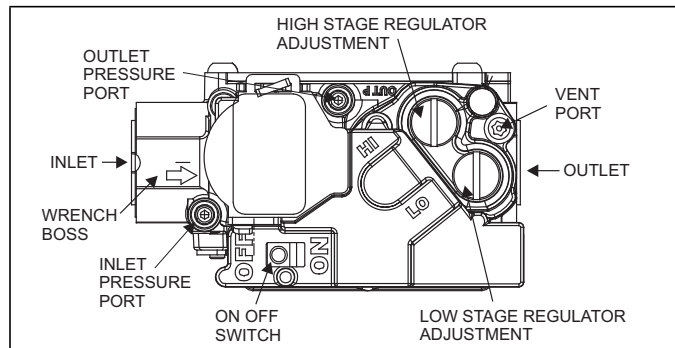

FIGURE 23: Gas Valve
Inlet and manifold gas pressure may be measured by connecting the "U" tube manometer to the gas valve with a piece of tubing. Follow the appropriate section in the instructions below. Refer to Figure 23 for a drawing of the locations of the pressure ports on the gas valve.
1. Refer to Figure 23 for location of pressure regulator adjustment cap and adjustment screws on main gas valve.